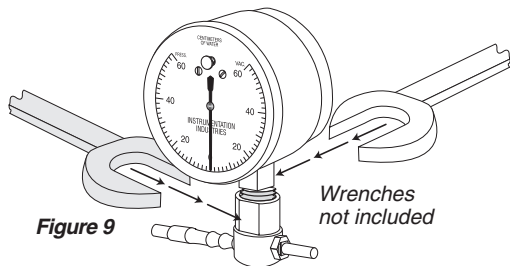

Figure 9
3. Place a 9/16" or adjustable wrench on the **square fitting** next to the gauge case and a 3/4" or adjustable wrench on the **wrench flats** of the **BE 148-4 Adapter**. (Figure 9)